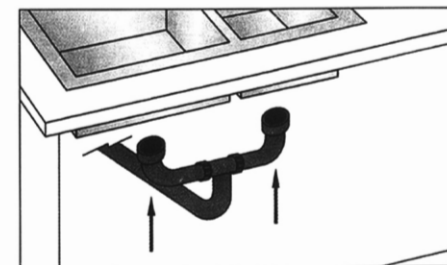

FIGURE 5
7. Make proper water and waste pipe connections. (FIGURE 5)